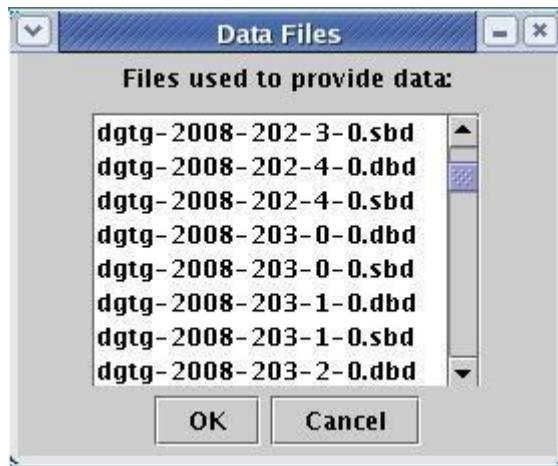

Figure 8-7. Dialog for viewing files used to provide data
1. Select Dates>Select data files. A scrollable list of files will then appear (similar to that shown in shown in Figure 8-7).
The Data Files dialog in Figure 8-7 can also be used to select which data is to be displayed. For example, highlighting files **dgtg-2008-202-4-0.dbd** through **dgtg-2008-203-1-0.sbd** from the multi-selection list and selecting 'OK' will update the Data Visualizer display to only show data from those files. This provides an alternative mechanism to drill-down on data obtained from specific files. Finally, the Data Files dialog will remain visible, and in-step with any displayed data, until 'Cancel' is selected.